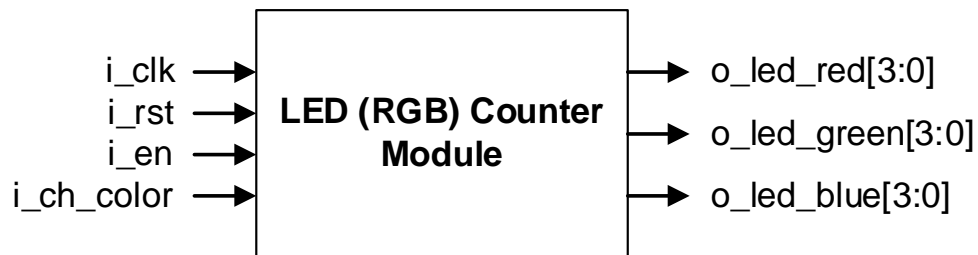

Figure 2. LED Counter Module
1) Design an LED counter module (Figure 2) with SystemVerilog.